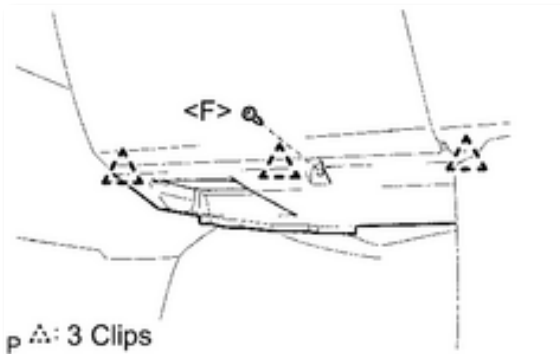

Figure 2 - No. 2 Instrument Panel Under Cover
- 2) Remove the No.2 Instrument Panel Under Cover underneath the Glove Box Compartment. There is one screw and 3 clips holding it up. See Figure 2.